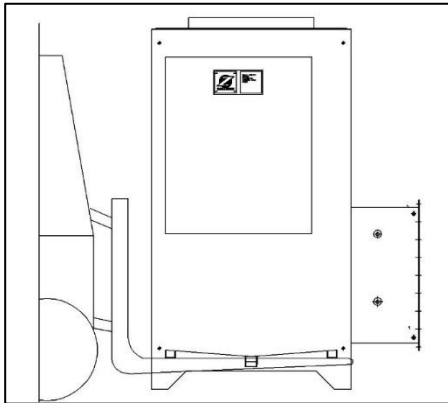

figure 4 Lifting the condenser
10. Connect the condensate drain to the water seal (siphon, see figure 4) by means of a stainless steel or galvanized pipe. **Do not use PVC. Do not use a discharge pipe smaller than 2"**. Connect the water seal to the drain/sewer.
1. Before starting the burner, the condenser and water circuit must be filled with water and bled until all air is out of the system. Fill the air trap (figure 4) with water until it flows into the sewer to prevent flue gasses from flowing into the boiler room.